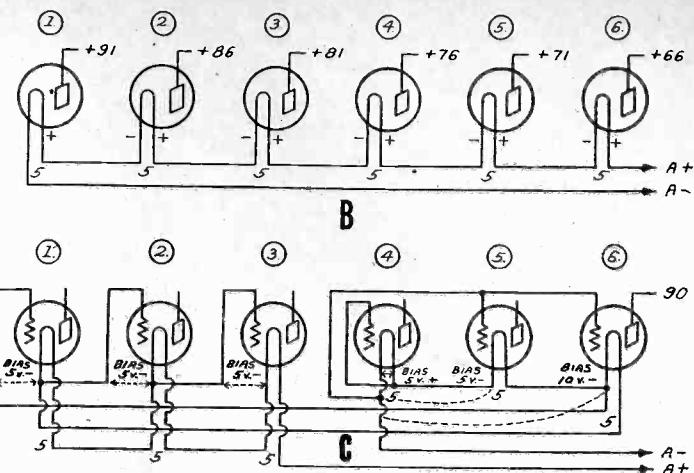

FIG. 15
A power supply furnishing A, B and C voltages from the 110-volt DC line is diagrammed in Fig. 15. It is assumed that the voltage at the source is 110 volts and that the choke coil drops 10 volts. As C bias is obtained from the device, the total available plate voltage is reduced by the amount of the maximum C bias. Therefore, with a negative bias of 9 volts for a 112A output tube, there would be 9 volts less than 100 volts on the plate, or 91 volts. If a 45-volt battery is added in series with the maximum output the 136 volts are just right for 9 volts negative bias for the 112A.
Ohm's Law Applied to Fig. 15 A
The only unknown quantities in Fig. 15 A are the values of the resistors R1, R2 and R3. While R3 is a single resistor, that is, a continuous unit from the point marked C-9 to the point marked 91+, electrically it is divided. This division is in two general forms: (1), bleeder-plate current, from 91+ to C-9, and (2), combined filament current and other current carriage, from A— to C-9. R1 and R2 carry filament current alone. There would be another subdivision of (1) for plate current flowing additionally from either intermediate B+ tap.